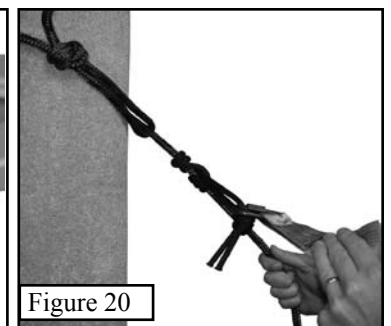

Figure 20
Step 1. Now that your platform and seat section are attached to the tree, you are ready to climb. It is **MANDATORY** that you use a safety harness as you climb. Be sure to read the safety harness instructions for proper use of your safety harness. Simply attach the safety line to the tree above the seat climber and secure it to the harness for climbing as shown in **Figure 20**.